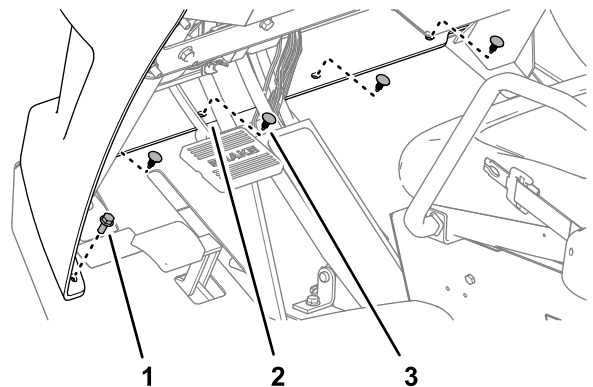

Figure 142
4. Assemble the bottom flange of the hood to the machine with 4 push-in fasteners (Figure 142).
5. Secure the flange to the machine (Figure 142) with 2 flange-head bolts (5/16 x 3/4 inch).